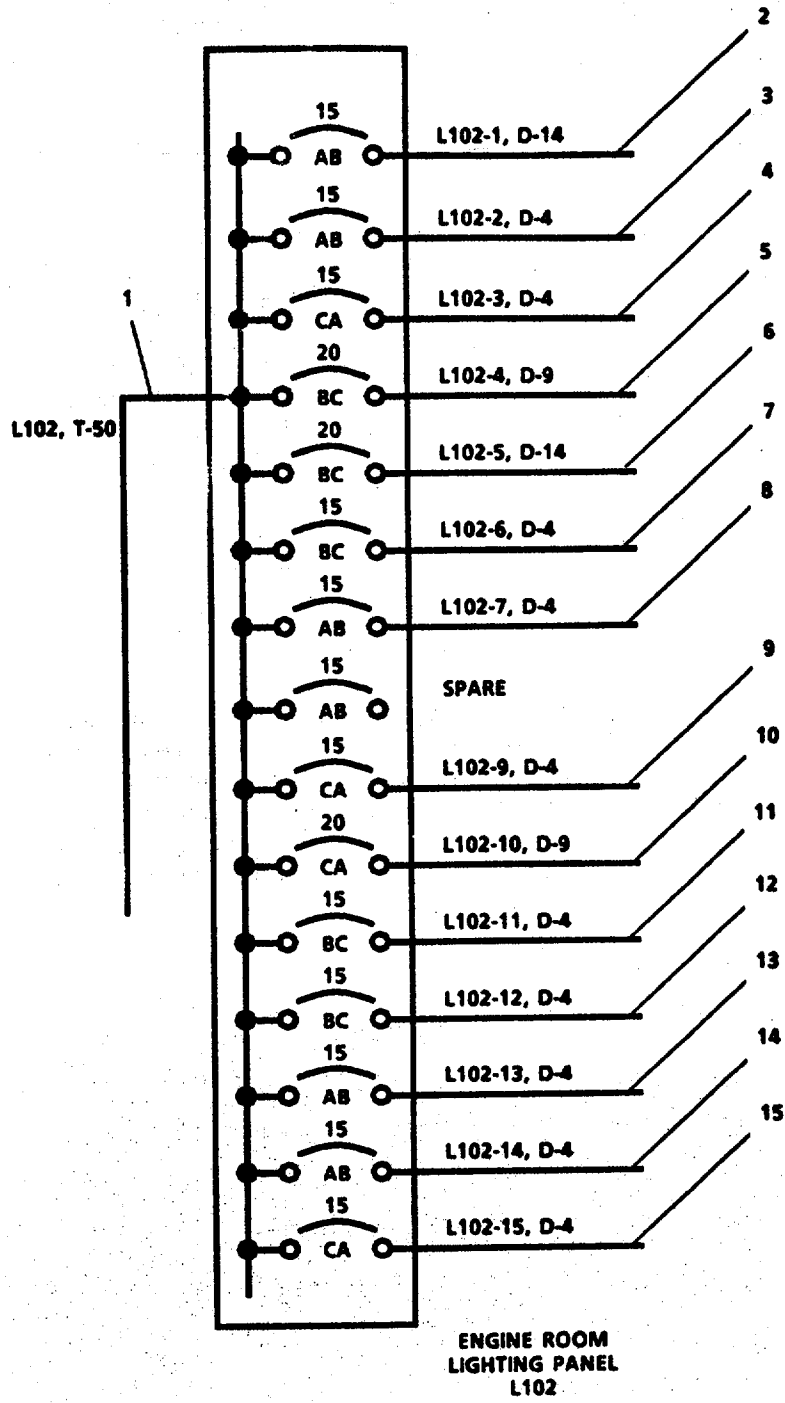

FIGURE 3-152. Power Distribution Panel L102
**3-167. Repair Power Distribution.Panel L102. (Figure 3-152).**